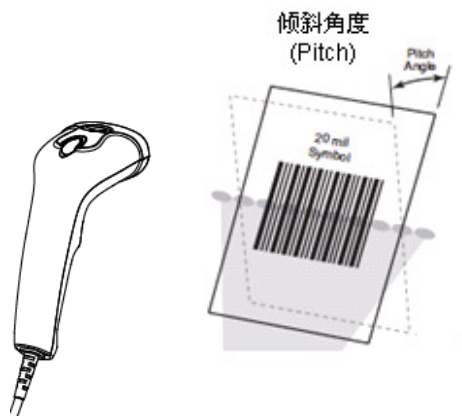

Fig. 1-7
- ✧ Pitch : $\pm 60^\circ$, 0° Roll and 0° Skew (Fig. 1-7)